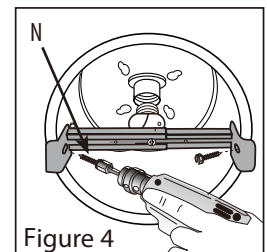

Figure 4
5. Secure the sliding bar to the recessed can, by using the two supplied 1" long self piercing screws (N). By using a power drill and a 1/4" hexagon driver, drive the two screws through both sides of the channel brace to the side of the recessed can (Figure 4).